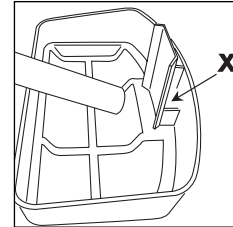

fig. 18
7. Flow the oil into the oil container. Pinch the oil drainage hose between two fingers to regulate the flow and avoid the oil leaking out of the openings "X" (see fig. 18). These openings are provided to prevent the oil overflowing from the filter tray if it drains too fast or the filter is clogged. In this case, filtering will not be optimum. If the oil is particularly "dirty", be careful to ensure that it does not overflow from the filter.